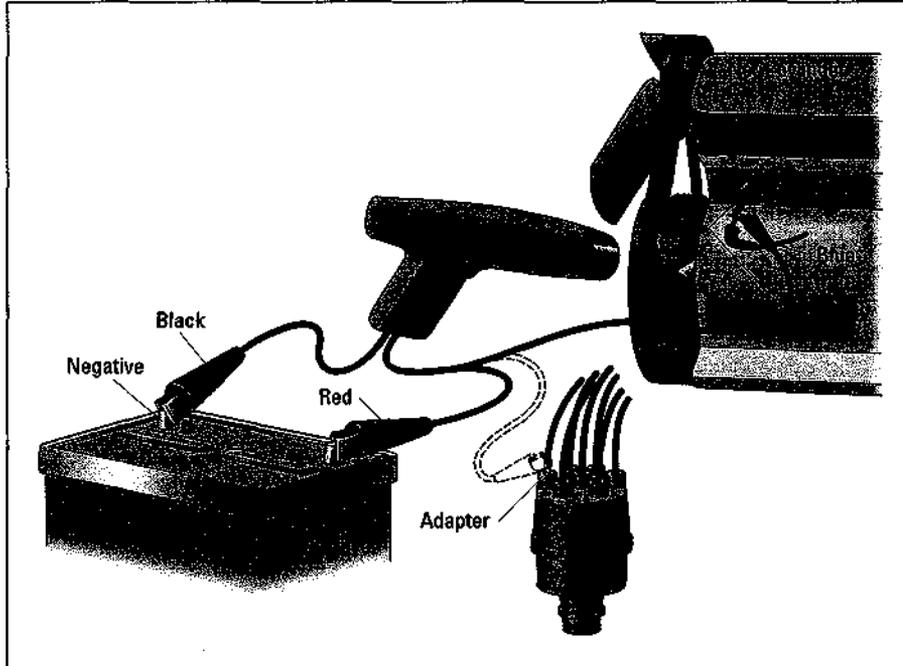

Figure 12-47:
- If your #1 spark plug is hard to get at, you can attach the third clip to the distributor terminal tower where the wire from the #1 plug enters the distributor cap. Just trace the wire from the plug to the distributor, remove the boot from the distributor cap terminal, add a metal extension (usually supplied with the light), replace the boot, and clamp the clip to the extension (see Figure 12-47).